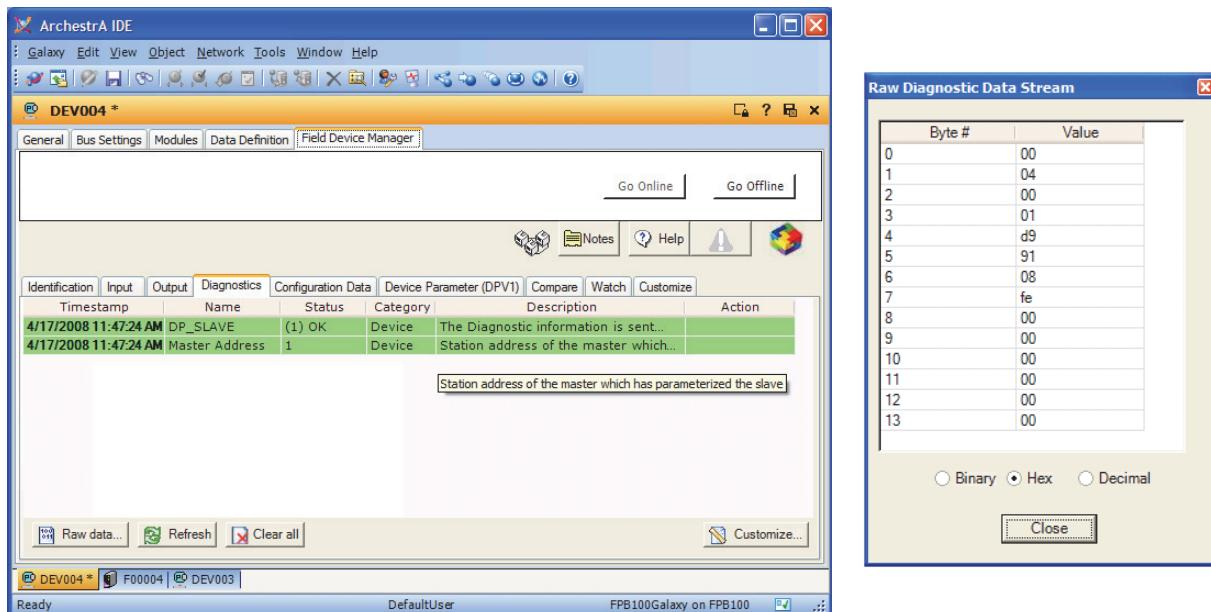

Figure 9. Field Device Manager Displays Diagnostics Messages as well as Raw Device Diagnostic Data
- ▶ Diagnostics tab displays diagnostic messages specified in the GSD and those which you define in the Data Definition tab based on either device diagnostics or DPV1 device parameters (Figure 9).